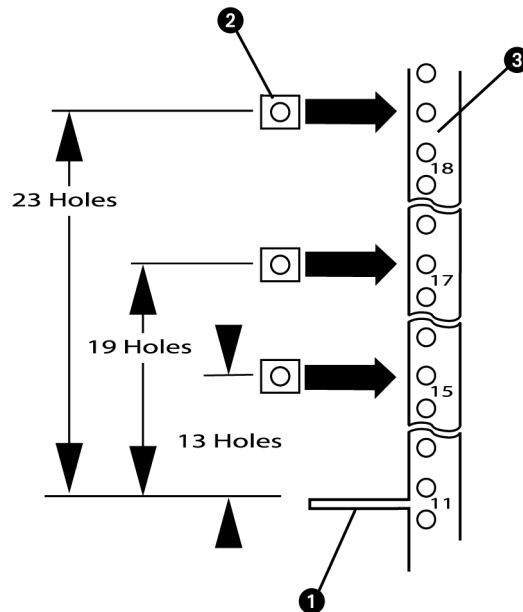

Figure 21: Preparing the front rack columns
1. Prepare the front rack columns, as shown in Figure 21:
- a. Standing at the front of the rack, count up from the top of the rail tray (❶) to the 13th, 19th, and 23rd holes on the rack's front face.
- b. Slide a sheet metal nut (❷) on each of the located holes.